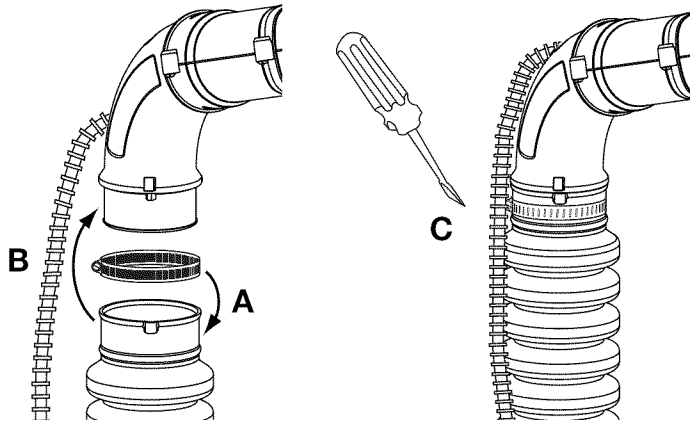

Fig. 1
1. Place a hose clamp over the end of the Flex Tube (Fig. 1, A).
2. Slide the end of the Flex Tube with the clamp on it over the elbow tube (Fig. 1, B).
3. Tighten the screw on the hose clamp to secure the Flex Tube to the elbow tube (Fig. 1, C).